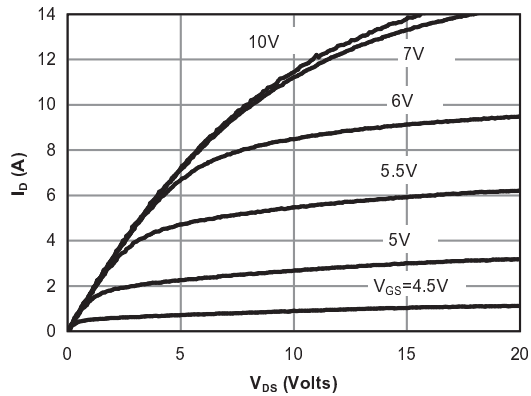

Figure 1: On-Region Characteristics@25°C
E. The static characteristics in Figures 1 to 6 are obtained using <300 μs pulses, duty cycle 0.5% max.